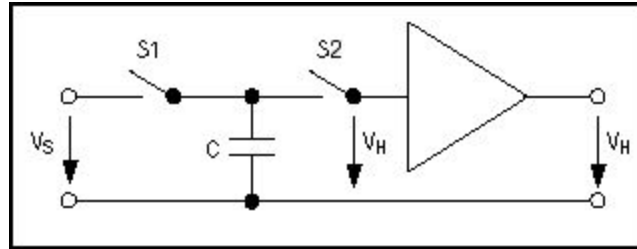

Figure 5. A typical track/hold function requires precise control of the analog switches.
A track/hold amplifier, which maintains a constant analog output during conversion by an A/D converter, offers a good example of this (**Figure 5**). Closing S1 charges the small buffer capacitor (C) to the input voltage (V_S). The value of C is only a few picofarads, and V_S remains stored on C when S1 opens. The held voltage (V_H) is